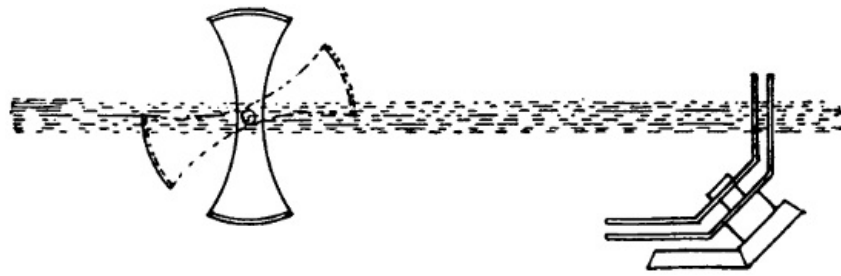
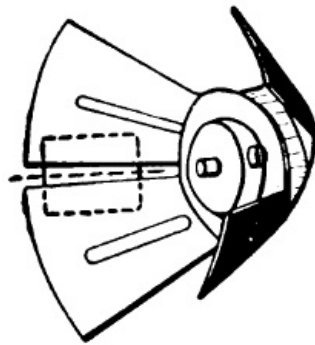

FIGURE 31.
FIGURE 32.
*K—The Revolving Shutter.*—The revolving shutter is sometimes arranged in front of the machine and often between the film and the lenses. The shutter *K* is of the "barrel" type and is further illustrated in Figure 31 at the left. The object of the shutter is to shut off the light during the time that the film is in motion so that the impressions made upon the eye by the succession of stationary pictures may not be blurred by the motion of the film when it is changed. The ideal shutter is one that shuts the light off instantly and, at the expiration of the necessary time, allows it as quickly to come to view again. The barrel-type shutter allows the light to pass through while it is in the position shown by solid lines, Figure 31, and has it entirely shut off when in the position indicated by broken lines. When it is in motion, the upper wing begins to shut off the light from the top and the lower from the bottom, thus causing the total eclipse of light in one-half of the time that a single wing shutter could do it.
At the right of Figure 31, we have a cone shutter such as is used in the Motiograph. The stem and gearing of this shutter are set at an angle of forty-five degrees to the rays of light, for the purpose of arranging them inside of the mechanism without taking up too much room. There are two cones of the kind illustrated in Figures 32 and 33 and they move in opposite directions, thus shutting off the light in about the same time that a barrel shutter could be made to do it. These two figures show the positions of wings just before shutting off the last vestige of light and just as they are beginning to admit it again.